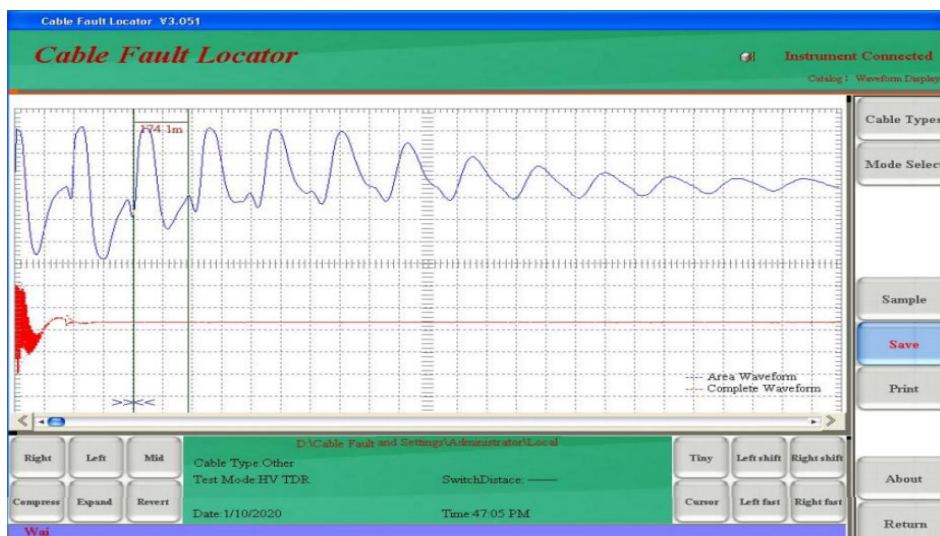

Fig 6-7
B. After setting the equipment parameters, click the "Sampling" button to enter the testing and waveform processing interface. After receiving the reflected signal through a special sampler, the operator should adjust the "Vertical Displacement" and "Input Amplitude" knobs according to the waveform needs, and observe the collected echo, so that the waveform does not appear upper and lower amplitude, until the echo amplitude and displacement are suitable for analysis. As shown in Figure 6-7.